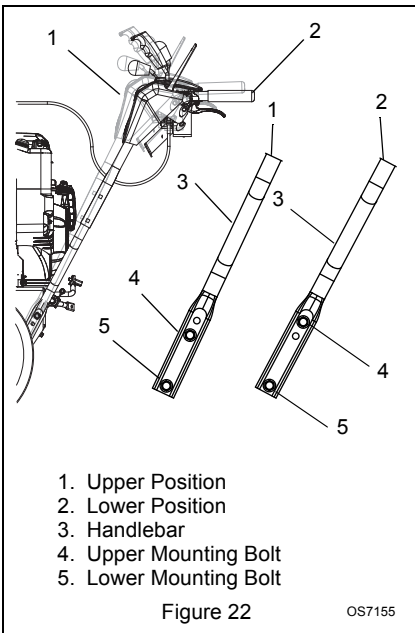

Figure 22
(Figure 22 and 23)
5. Secure handlebar to frame with hardware removed in step 4 using the different hardware locations shown in Figure 22.